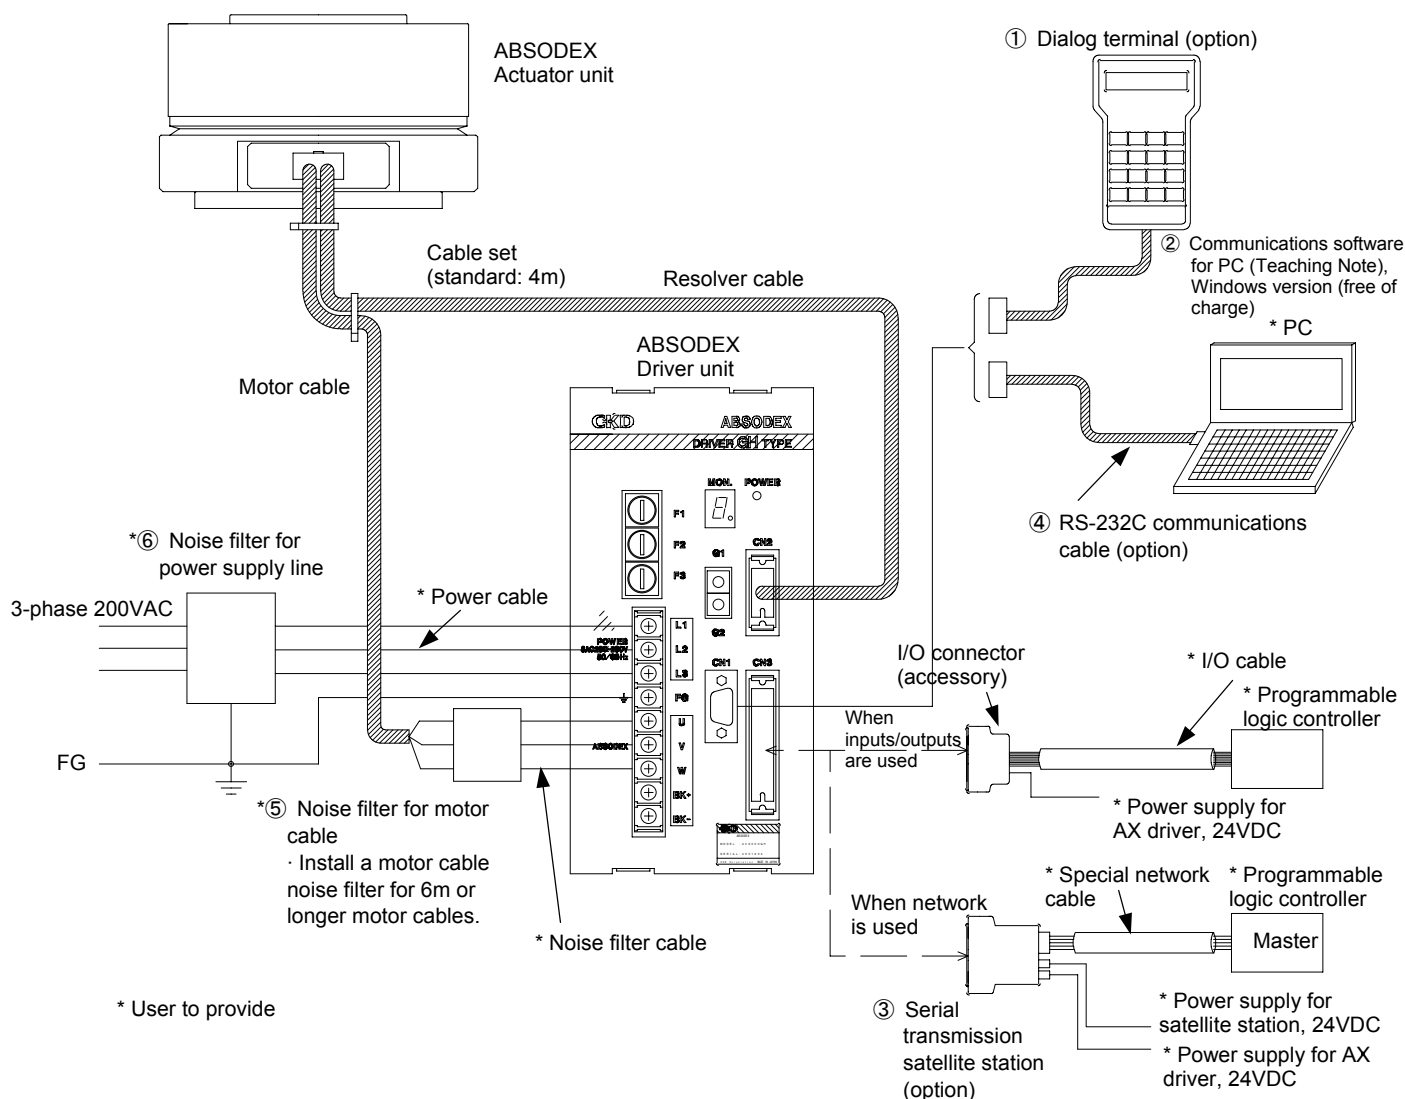

Fig. 3.1 System Configuration
- For 6m or a longer cable length, install a motor cable noise filter in the U, V and W cables of the motor. Connect the IN terminal of the noise filter with the driver and install as close to the driver as possible. (Refer to Fig. 3.1.)
To use with 3-phase power supply, connect the 50/60Hz power cables to the R, S, T or L1, L2 and L3 terminals. (Refer to Fig. 3.1.)
Protective earth of the motor cable and protective earth of the main power must be wired to this terminal. (Refer to Fig. 3.1.)
These terminals must be wired to the actuator using motor cable supplied as accessories. (Refer to Fig. 3.1.)